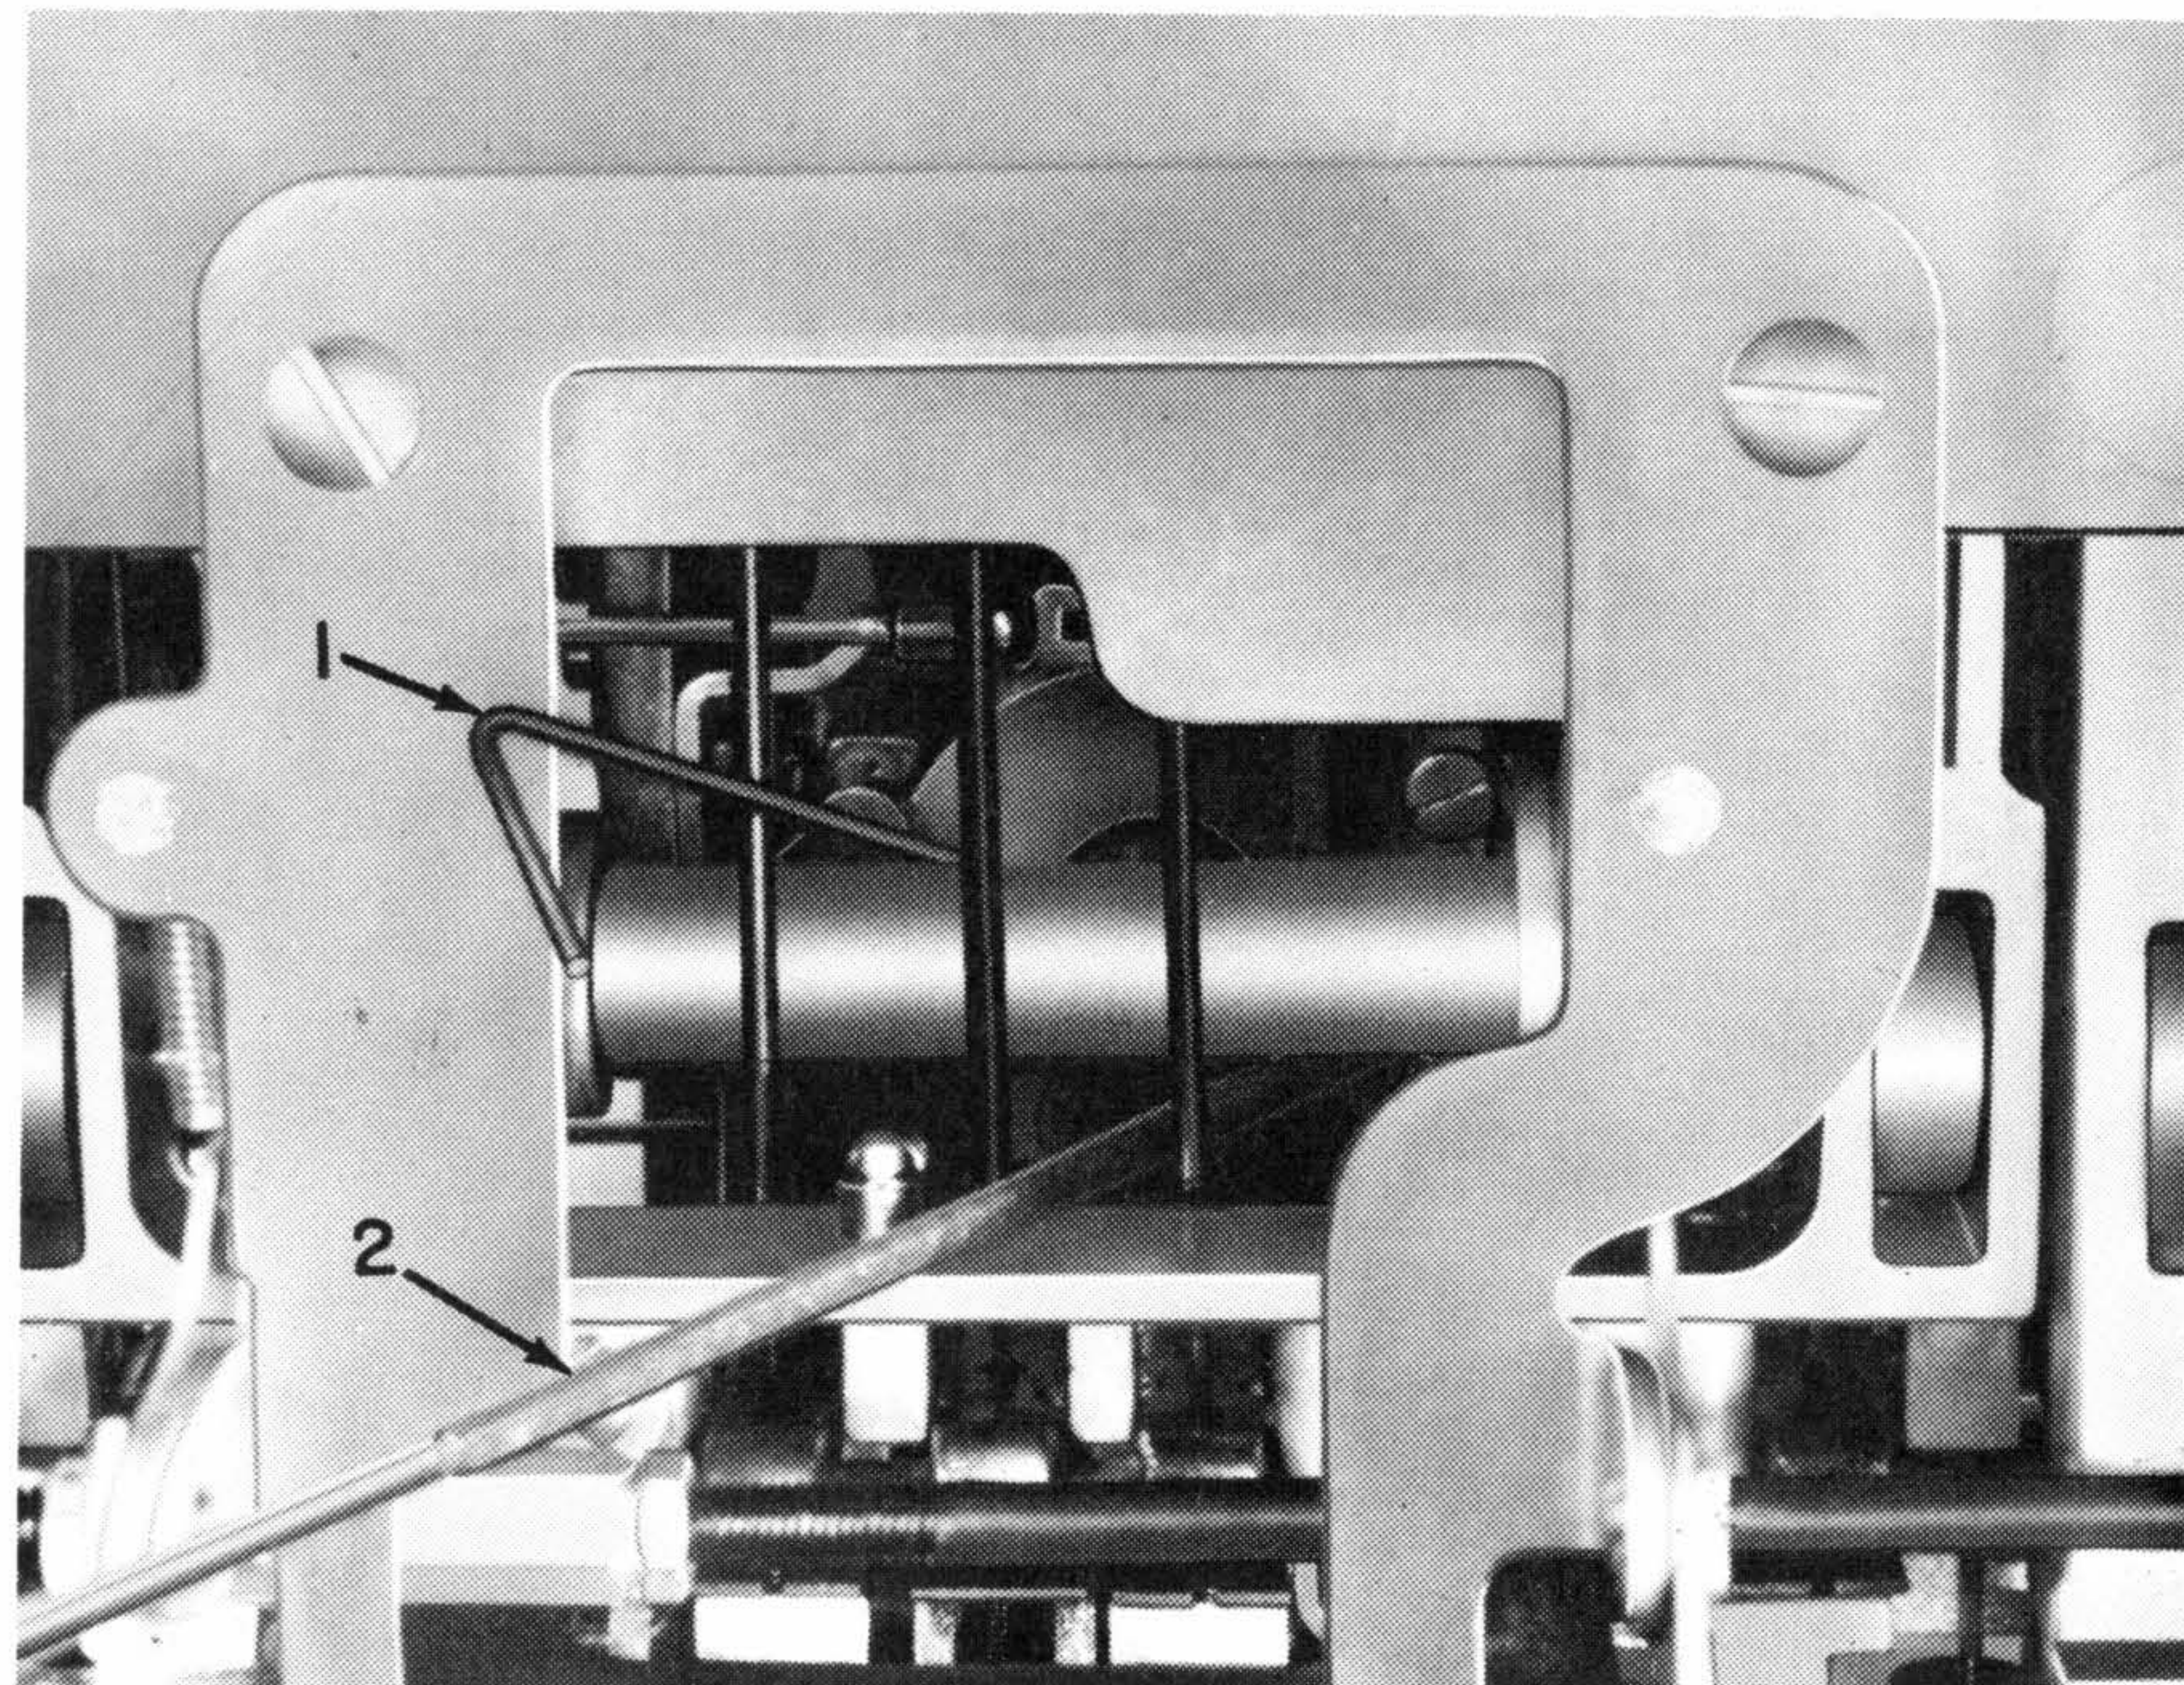

Figure 16. Lower Ball Socket and Tilt Ring Removal
8. Loosen the rotate pulley setscrew (#1, Figure 16).
9. Use the butt end of a small spring hook as a follower to push out the lower ball socket (#2, Figure 16). Note: This prevents the wedge from being lost. When replacing the socket be sure the pin is pointing toward the front-left and right-rear corners.